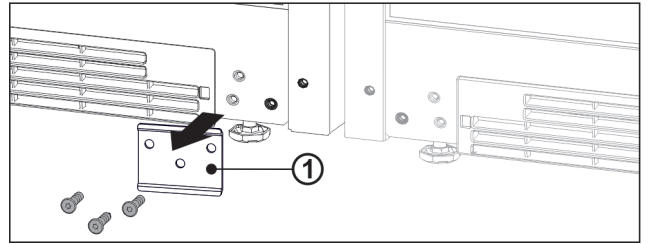

Fig. 15
- ▶ If the metal plate Fig. 15 (1) is installed, unscrew the metal plate.